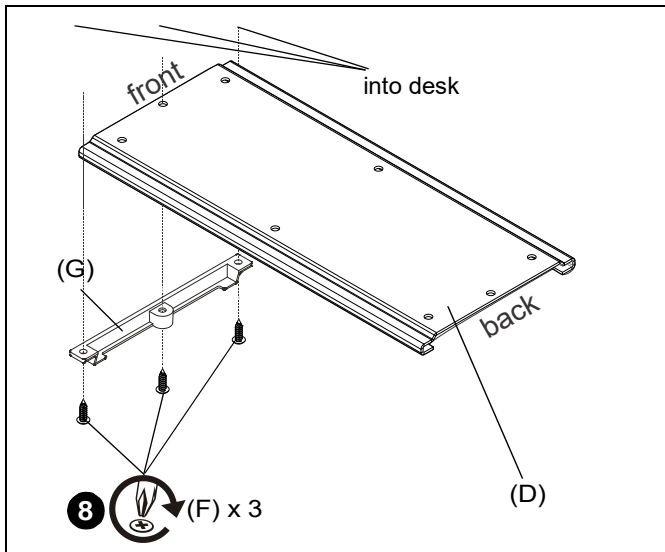

Figure 6
- Use three #8 x 5/8" wood screws (F) to secure track guard (G) to under-desk track (D) and desk. (See Figure 6)